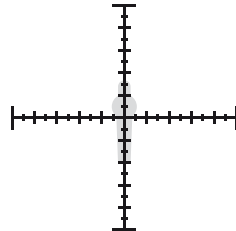

Fig. 4-15
30.48 cm $\div$ 1 MRAD $\times$ 10 = 304.8 m (Fig. 4-15)